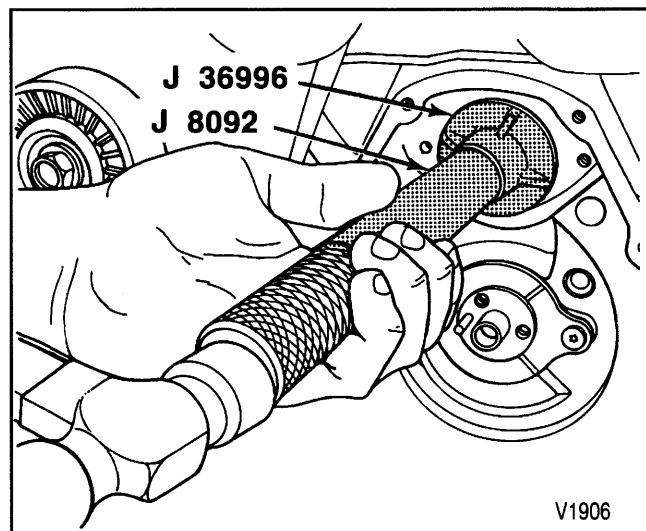

Figure 35—Installing the Balance Shaft
2. Balance shaft into the block using J 36996 and J 8092 (figure 35).